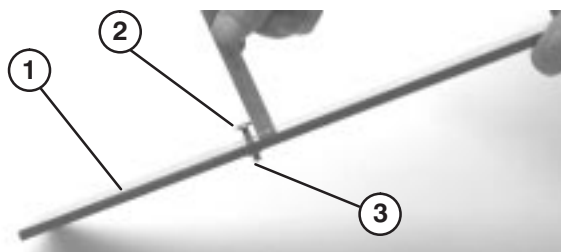

Figure 19
- Loosen nut on gauge bar (Fig. 19) and set adjusting screw to desired height-of-cut. Distance between bottom of screw head and face of bar is height-of-cut.